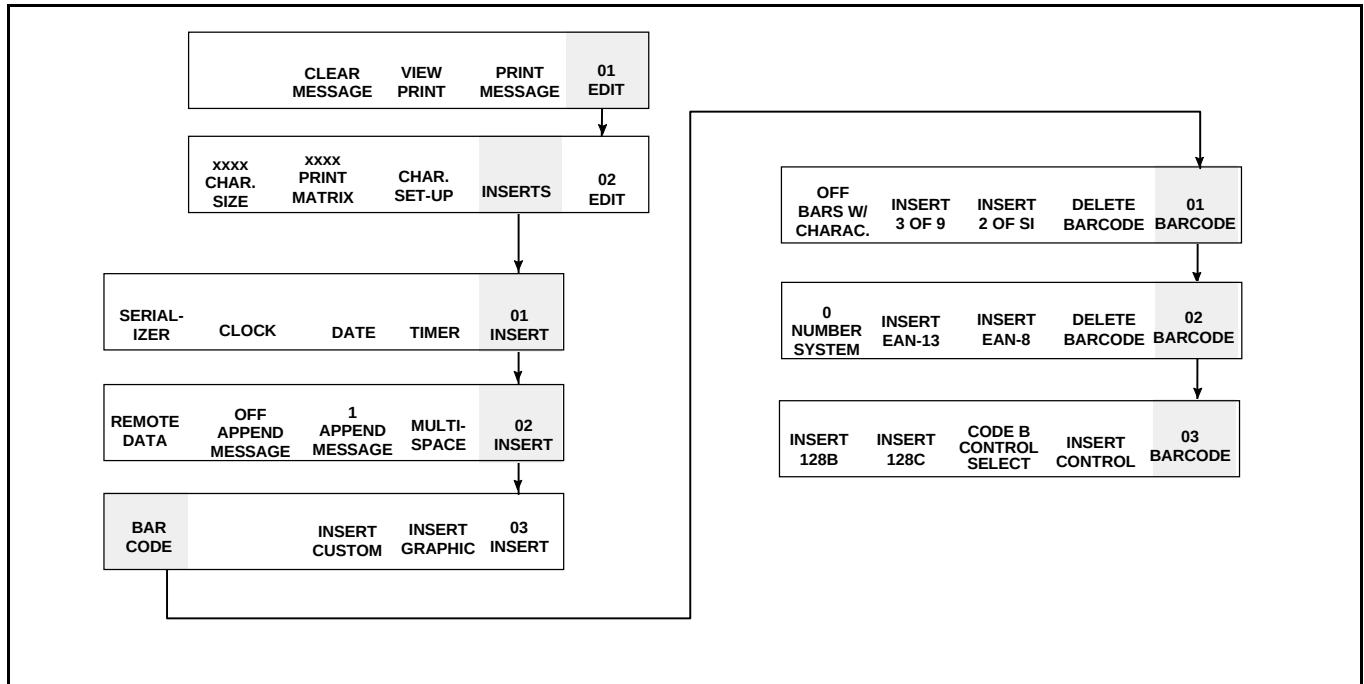

Figure 6-53. Accessing Frame <03 BARCODE>
2. Press **F1** to select <BAR CODE>. Then press **F5** twice. Frame <03 BARCODE> appears in the display. Refer to Figure 6-53.